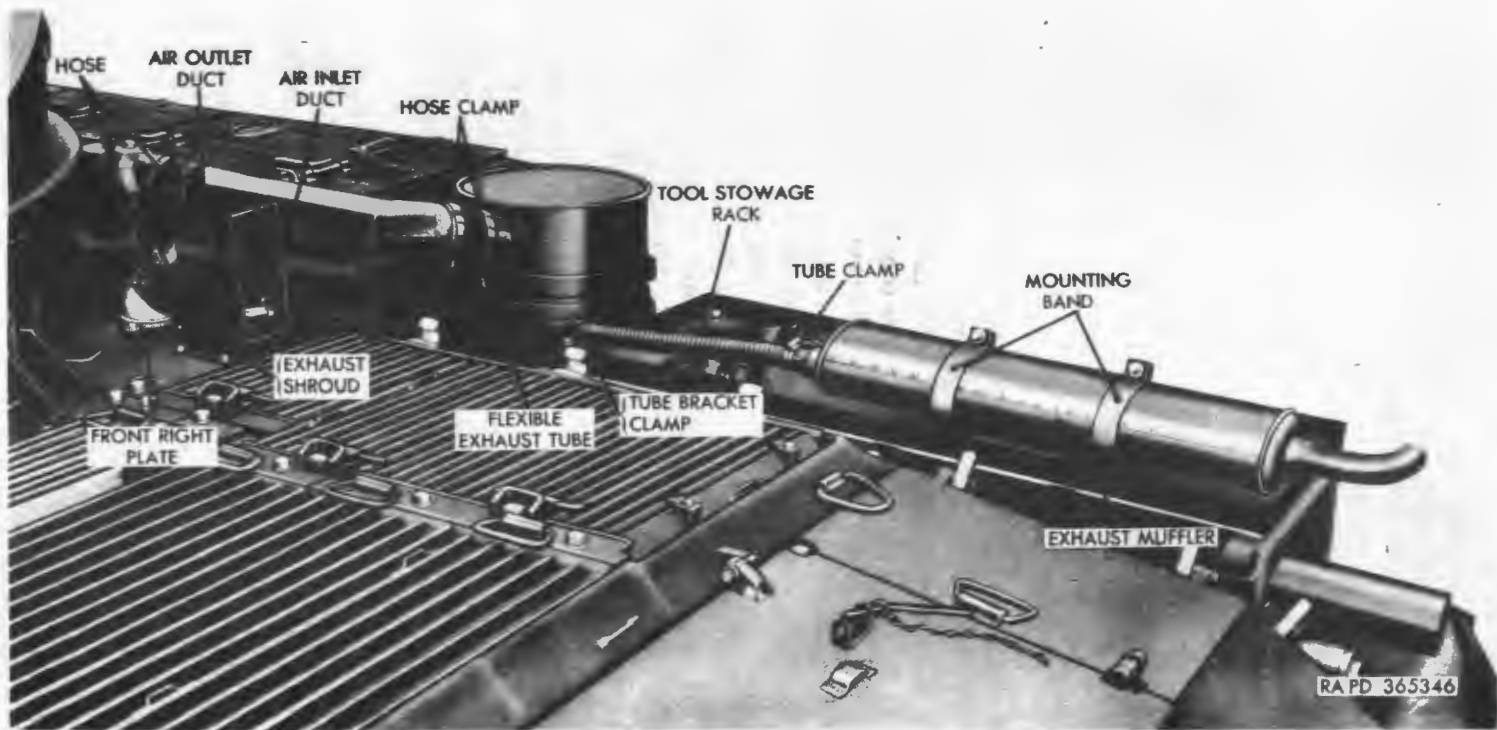

Figure 162. Exhaust muffler—late vehicle.
(b) *Exhaust system.* The exhaust system consists of an oval shaped muffler and a connecting flexible exhaust tube (fig. 162). The muffler is strapped to mounting brackets on the tool stowage rack installed on the right muffler shield. Vehicles with Ordnance serial No. 1 through 400, 490 through 643, and 879 and up are equipped with a large muffler which is mounted along the length of the rack. Vehicles with Ordnance serial No. 401 through 489 and 644 through 878 are equipped with a small muffler which is mounted on the front of the rack directly behind the main engine right air cleaner.
- (2) Loosen screws on hose clamps (fig. 162) securing air inlet and air outlet duct hose to air cleaner, valve housing, and main engine air intake duct. Remove hose and air inlet and outlet ducts from vehicle.
- (3) Loosen tube clamp securing flexible exhaust tube (fig. 162) to exhaust pipe of auxiliary generator and engine and remove tube from pipe.
- (4) Remove four hex-head bolts with integral lockwashers and two spacers securing exhaust shroud (fig. 162) to front right plate and remove shroud.
- (5) Remove three hex-head bolts and lockwashers securing front right plate (fig. 162) to hull and remove plate.
- (9) Position front right plate (fig. 162) on hull and secure with three $\frac{5}{8}$ x $1\frac{1}{2}$ hex-head bolts and $\frac{5}{8}$ -inch lockwashers.
- (10) Position exhaust shroud (fig. 162) on front right plate with one spacer between shroud and plate at each bolt hole nearest shroud opening. Secure shroud to plate with two $\frac{3}{8}$ x $\frac{7}{8}$ hex-head bolts with integral lockwashers at shroud opening and two $\frac{3}{8}$ x $\frac{5}{8}$ hex-head bolts with integral lockwashers at rear of shroud.
- (11) Install flexible exhaust tube (fig. 162) on exhaust pipe of auxiliary generator and engine and tighten tube clamp securely.
- (12) Install air inlet duct and hose (fig. 162) on inlet of air cleaner and valve housing and tighten screws on hose clamps securely.
- (13) Install air outlet duct and hose (fig. 162) to outlet of air cleaner and main engine air intake duct and tighten screws on hose clamps securely.
(fig. 162)